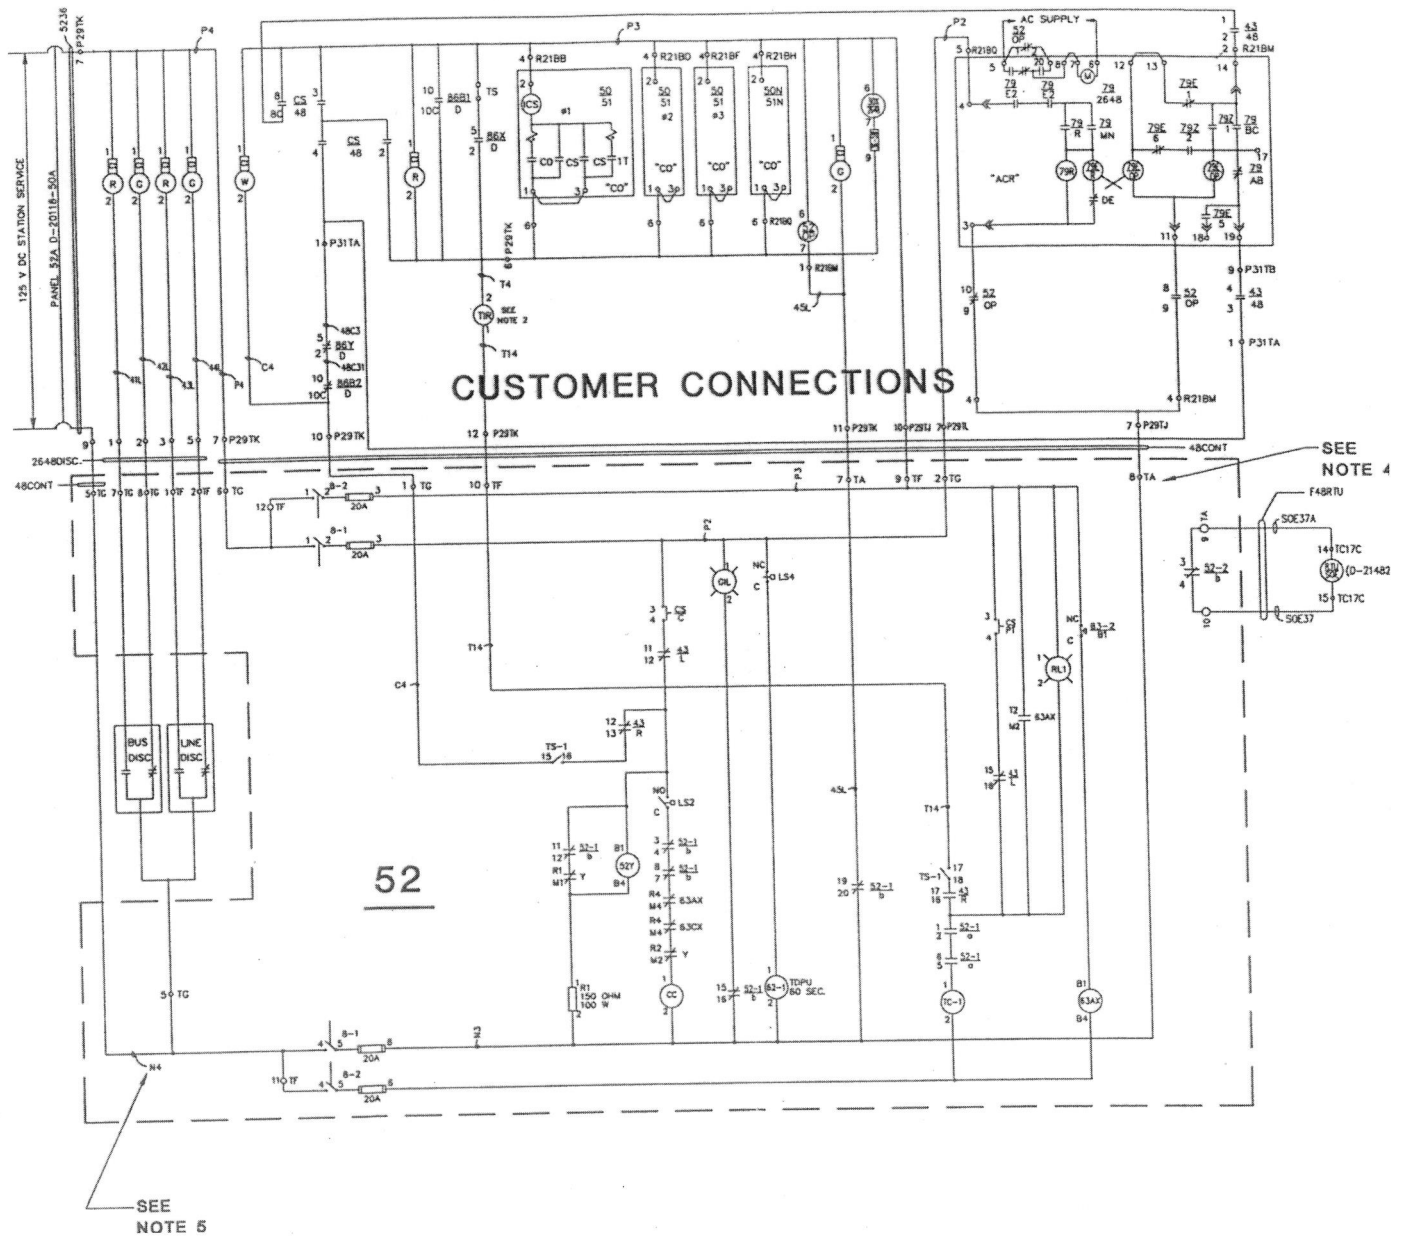

Figure 8 – Example of Elementary Diagram
- A circle (O) on the schematic will designate a terminal block point.
- The two (2) letter designation for the terminal block shall be to the right of the circle and the terminal point number for the block as on the left.
- Circuit and cable designations should be shown, when practical as shown in **Figure 8**.